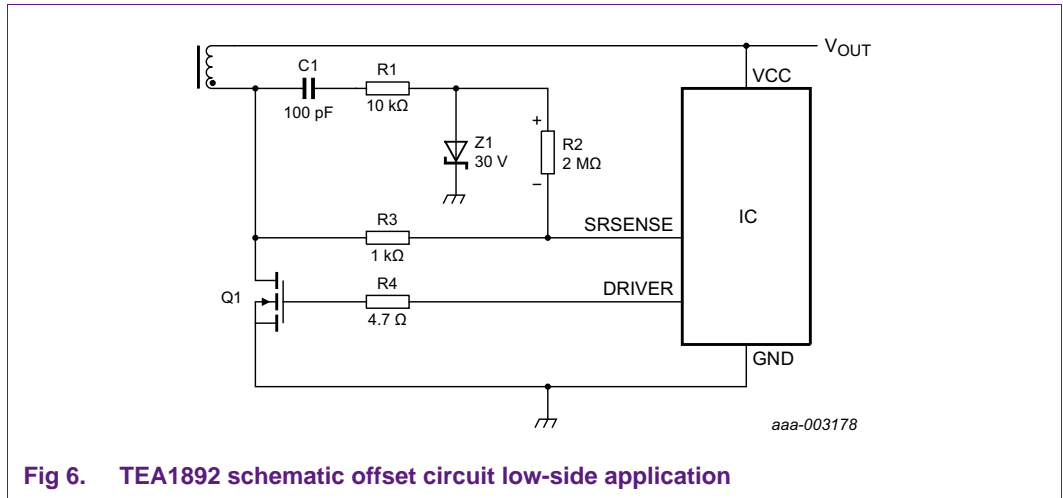

Fig 6. TEA1892 schematic offset circuit low-side application
- Create an offset on the SRSENSE input as shown in Figure 6. The offset also contributes to better performance of low R_{DSon} MOSFETs.
The schematic shown in Figure 6 is drawn for a low-side application for ease of explanation. However, it is valid for high-side applications as well. The explanation of the circuit is based on the component values used in Figure 6.